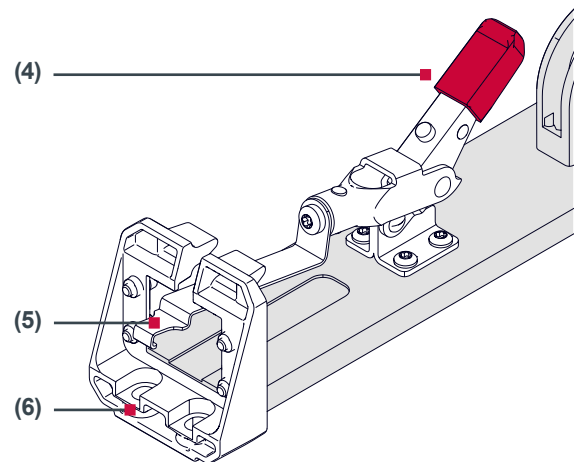

Fig. 3 Attaching the connector bracket
3. Pull the second clamping lever (4) on the assembly aid upwards to release it, and position the connector bracket (6) as shown in Figure 3.
4. Guide the retaining plate (5) over the connector bracket and close the clamping lever (4).